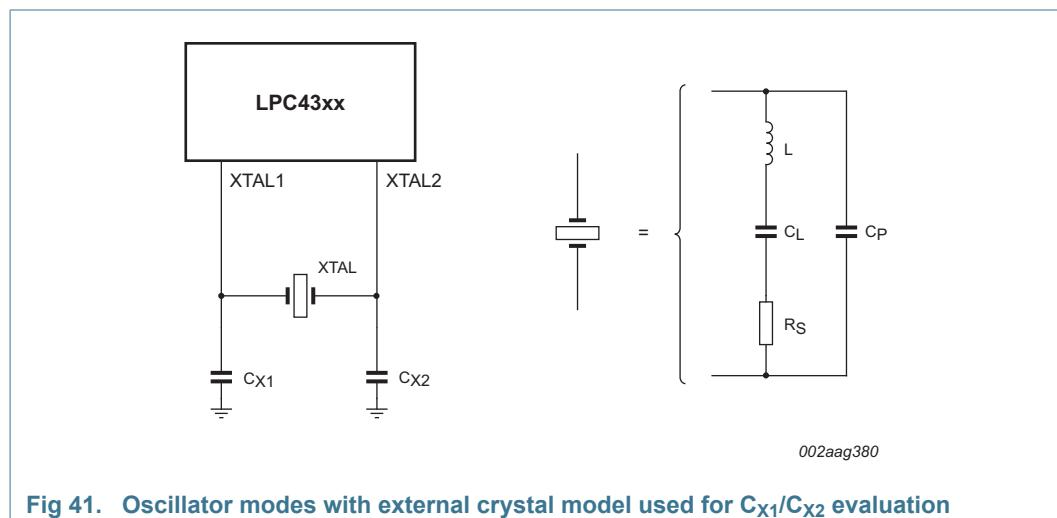

Fig 41. Oscillator modes with external crystal model used for C_{X1}/C_{X2} evaluation
- External components and models used in oscillation mode are shown in Figure 41, and in Table 43 and Table 44. Since the feedback resistance is integrated on chip, only a crystal and the capacitances CX1 and CX2 need to be connected externally in case of fundamental mode oscillation (the fundamental frequency is represented by L, CL and RS). Capacitance C_P in Figure 41 represents the parallel package capacitance and should not be larger than 7 pF. Parameters FC, CL, RS and CP are supplied by the crystal manufacturer.